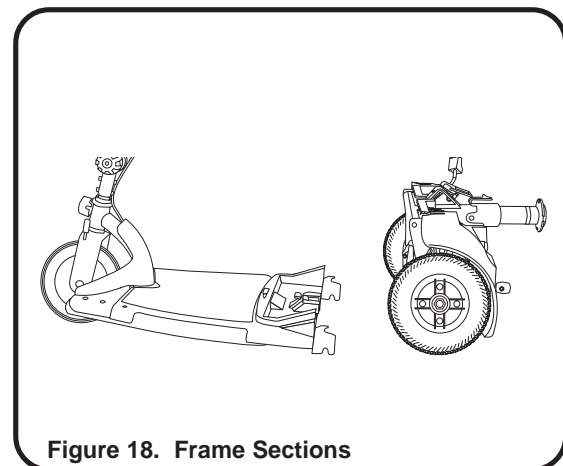

Figure 18. Frame Sections
3. Carefully lift the front section away from the rear section. **See figure 18.**
1. Position the front and rear sections of your scooter as shown in **figure 18.**